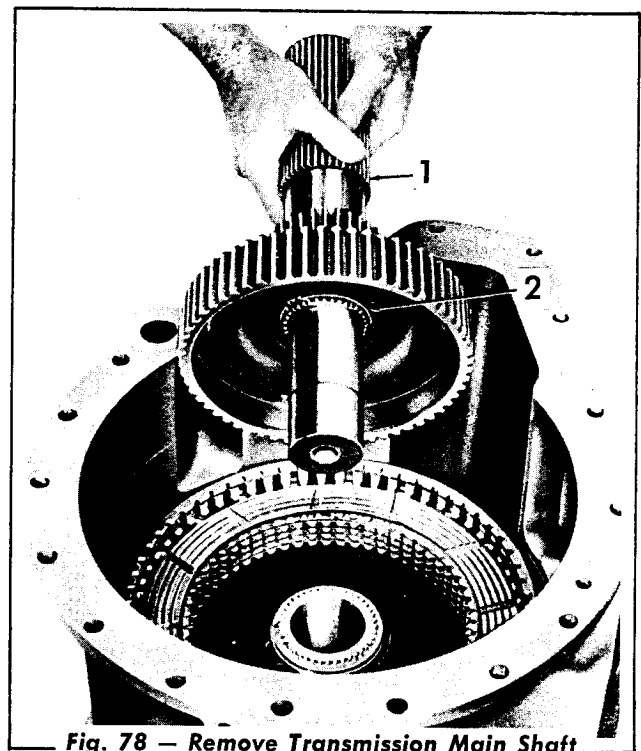

Fig. 78 — Remove Transmission Main Shaft
16. Remove the transmission main shaft and attached parts (Fig. 78). Remove the snap ring from the shaft.